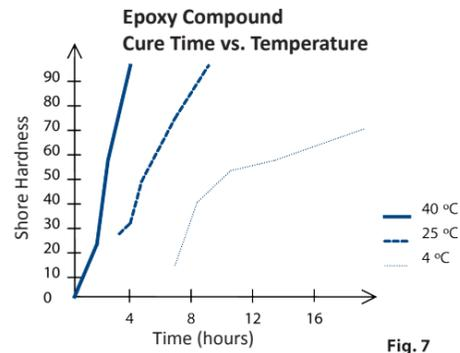

Fig. 7
**F** Remove the entry (6), spread the cable cores out for the compound packing. Pack the compound between the cores shown. See notes below and Fig. 7 for compound preparation.
**I** Locate and hand tighten the sub-assembly ① and ② to the entry ⑥.
**J** Allow the compound to cure (See Fig. 7 for Curing Times). Untighten the sub-assembly ① and ② from the entry ⑥ to enable inspection. The rubber pot ⑤ may be removed for inspection to ensure that the packing is satisfactory.